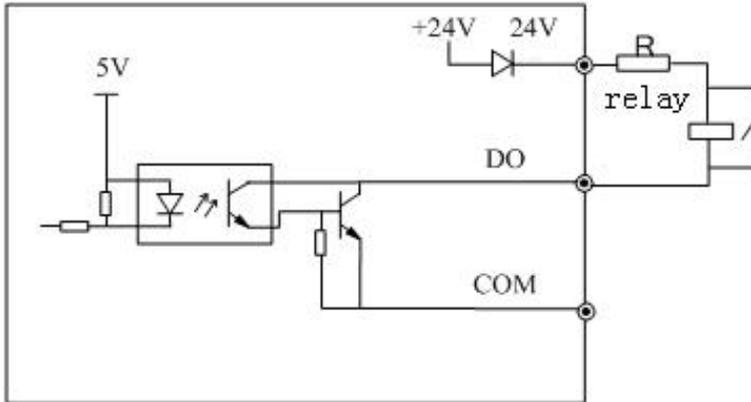

Fig 2-25 Wiring method 1 of DO as switching output
1) Multi-function output terminals D0 as switching output can use the internal 24V power supply of ac drive and the wiring method is shown in Figure 2-25.